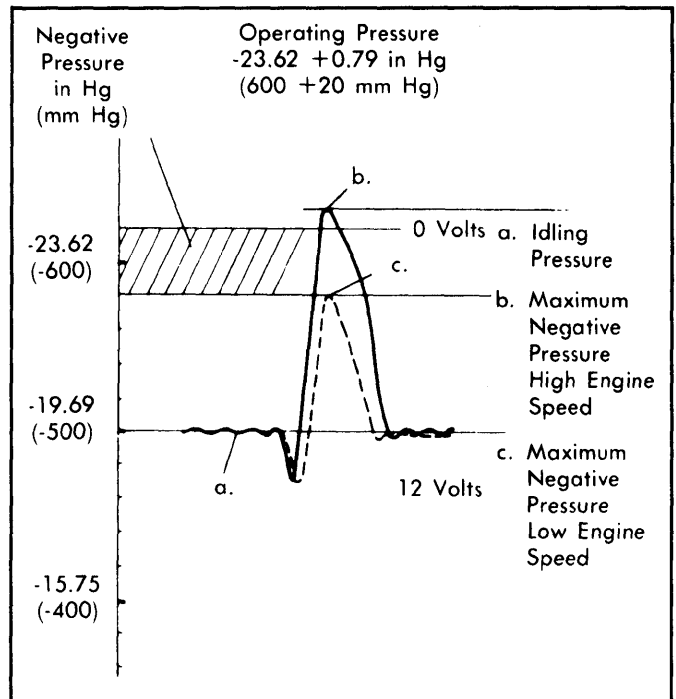

Fig. 8: 1978 Fuel Shut-Off Valve Operating Pressure
4) Start and run engine. Increase engine speed to 2500-3000 RPM, quickly close throttle, and note vacuum gauge and voltmeter readings. Vacuum should rise quickly to at least 24 in. Hg as throttle is closed. Voltage readings should vary as shown in illustration. See Fig. 8.